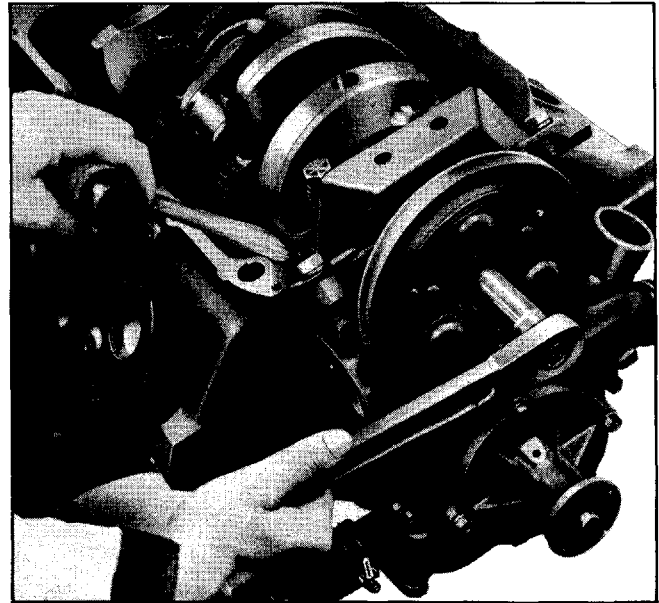

Fig. 6-34 Holding Crankshaft to Remove Harmonic Balancer
29. Remove harmonic balancer attaching screw and retainer, and slide balancer off crankshaft. A hammer handle placed between the block and the front counterweight of the crankshaft will hold the crankshaft while attaching screw is being removed (Fig. 6-34).
31. Remove fuel pump eccentric from camshaft. Place hammer handle between block and front crankshaft counterweight to hold crankshaft (Fig. 6-34).